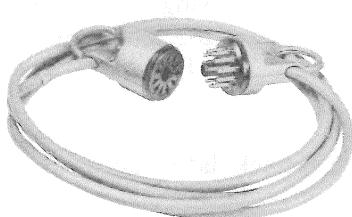

Fig. 7—P11C Test Cord
- P11C test cord (Fig. 7) (used for testing with door and liner assembly open)